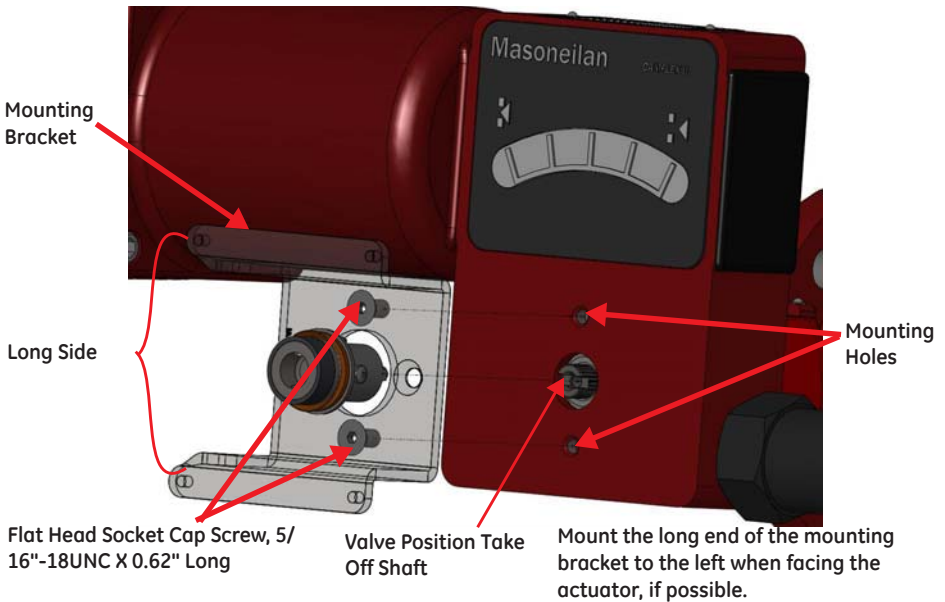

Figure 9 Rotary Mounting Bracket to Valve Actuator
1. Attach the mounting bracket to actuator (Figure 9).